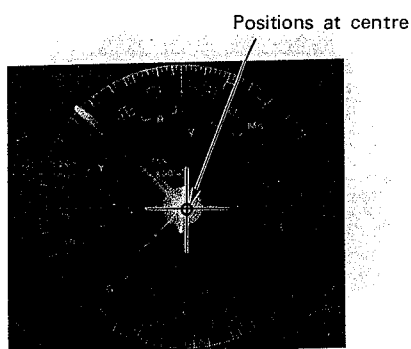

Fig. 4-13
- If the vector does not position at the centre of vectorscope, press **PG DN** key twice to return to (15)-A-1, and repeat above procedure until vector positions at the centre of vectorscope as shown in Fig. 4-13.